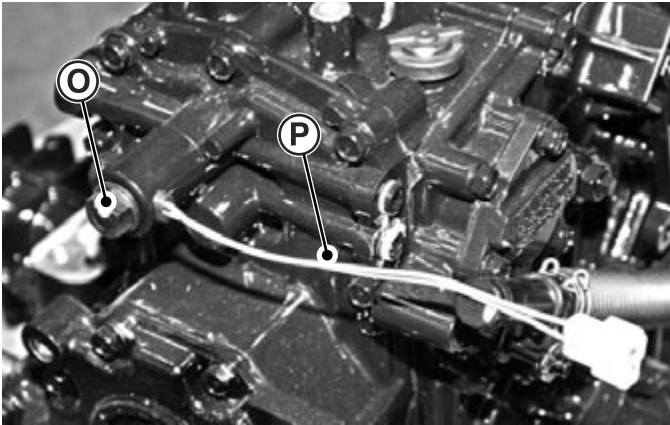

Fig. 11, PTO Electrical Solenoid
- Tighten plastic nut (O) to 4.9 N•m (43 lb-in.). (Fig. 11)